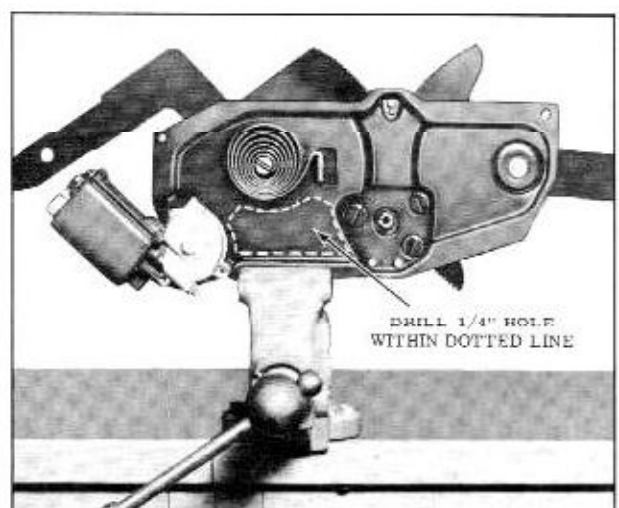

Fig. 17-191 Regulator Motor Removal
2. Place regulator assembly in a vise as shown in Fig. 17-191.
3. Drill a 1/4" hole through regulator backplate and main sector within area indicated by dotted lines. (Fig. 17-191)